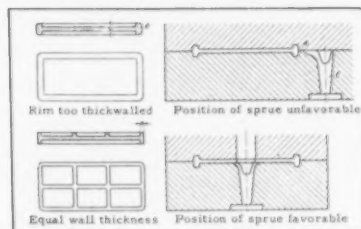

Fig. 5 . . . Shaping of a cover.
The sprue for the cover as shown in Fig. 5 must be placed on the side, i.e., outside of the castings, since no openings for gating are available internally. This design can be used easily especially if a divided sprue is used but it is feasible also with the undivided indirect sprue (c). The gating (A) connects the sprue (E) with the die